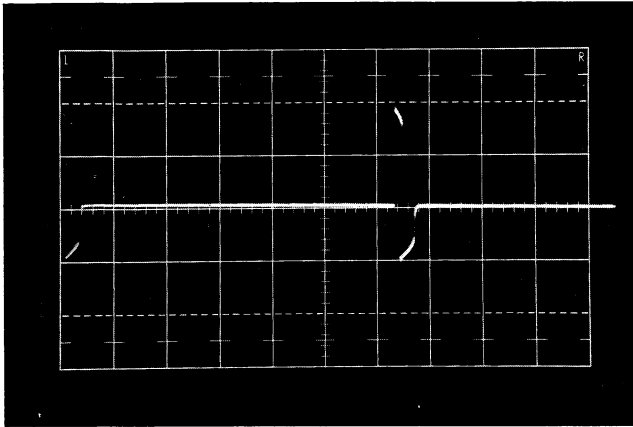

Fig. 6-15. Typical burst intensification pulse.
c. CHECK—Test oscilloscope display; should appear similar to the waveform in Fig. 6-15.